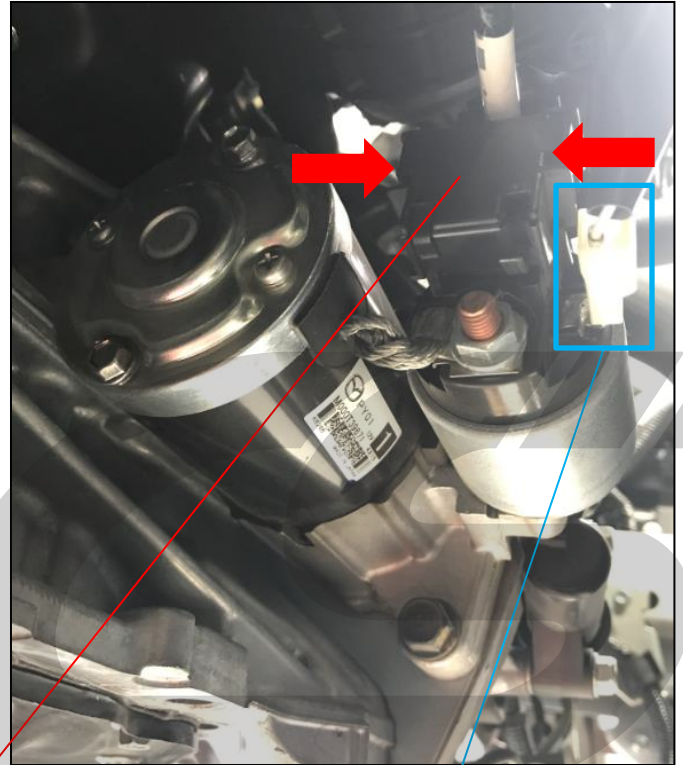

Figure 4a
- a) Locate the engine starter on the front of the engine as shown in **Figure 4a**.
- c) Open the starter power wire cover as shown with the **red arrows** in **Figure 4a**.